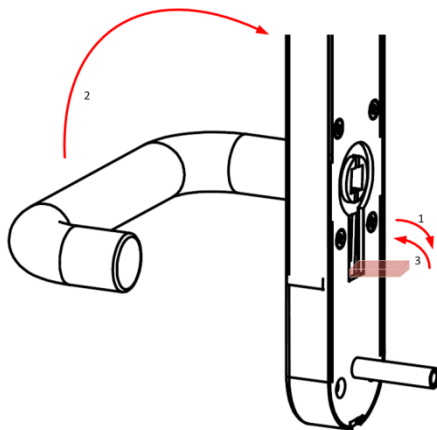

Fig. 9. Alter handle position for outer escutcheon
A. Outer escutcheon (See Fig. 9)